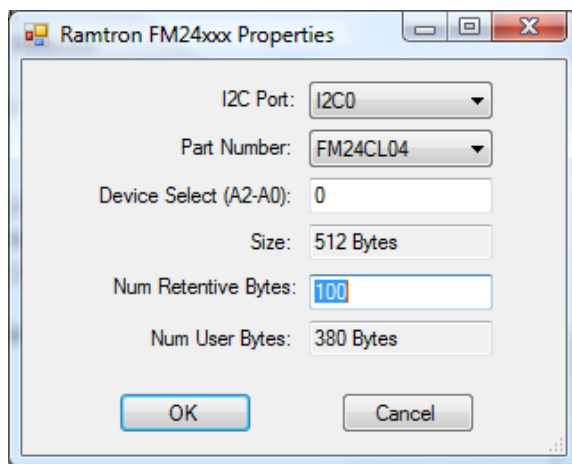

Figure 2-34 - Ramtron FM24xxx Properties
4. Enter the number of retentive bytes to use in the target in the *Num Retentive Bytes* box. The maximum available to use is 480 bytes (defaulted to 100 bytes). Refer to Figure 2-34.